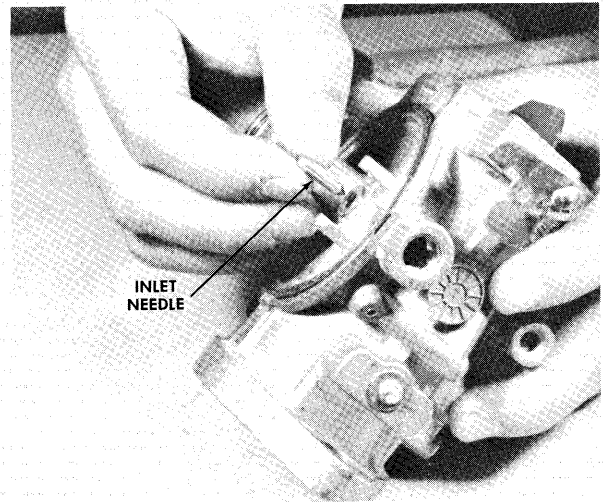

Figure 6—Removing Inlet Needle
- C. Remove inlet needle as shown in figure 6.
- A. Install inlet needle as shown in figure 6.